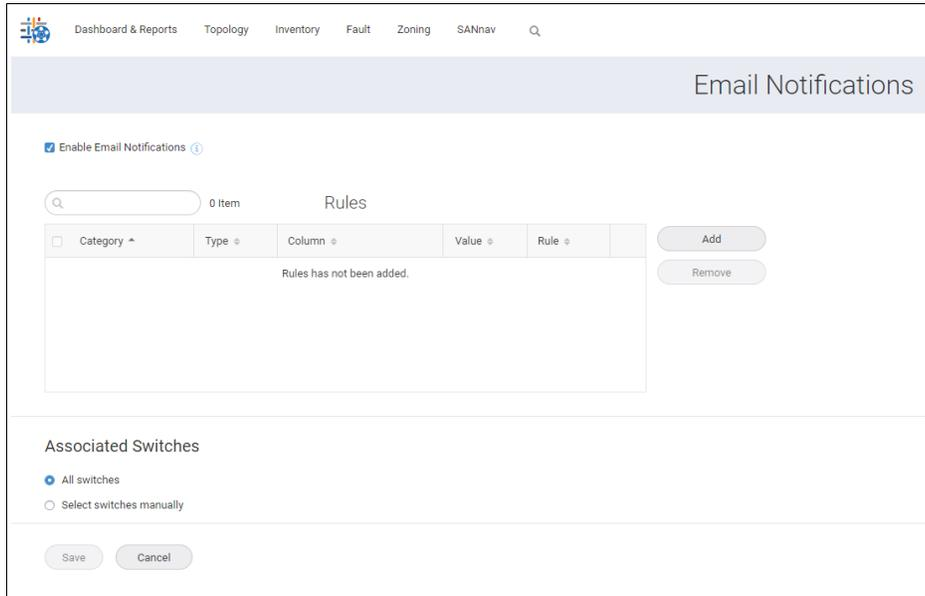

Figure 5-151 Enabling email notifications
3. Select the **Enable Email Notifications** checkbox. When you select **Enable Email Notifications**, you can add or remove rules that are associated with the events or violations and associate switches to these rules (Figure 5-151).